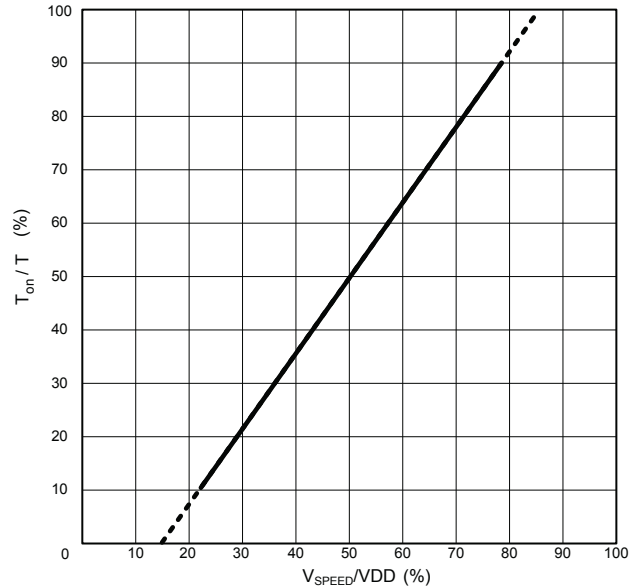

Figure 1: Speed in Relation to Duty Cycle
**SPEED** The duty cycle of the internally generated carrier frequency is controlled by applying a DC voltage on the SPEED input. A plot showing the relationship of Speed to duty cycle is shown in Figure 1. When SPEED is pulled directly to VDD the internal carrier is disabled and the Enable input can be used to PWM the bridge. When  $V_{SPEED} < V_{SPEED(D)}$  the output is guaranteed to be 0%. When  $V_{SPEED} > V_{SPEED(E)}$  the output is guaranteed to be 100%.